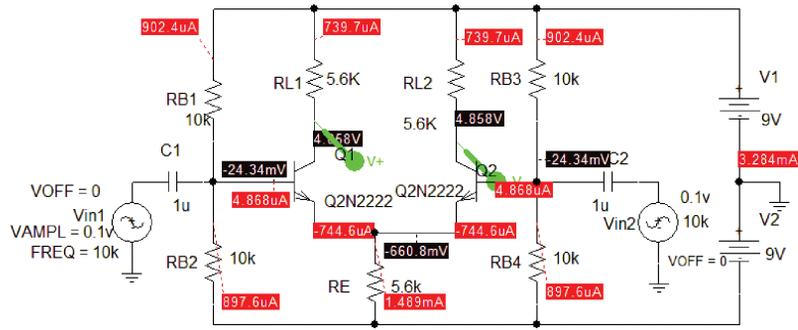

FIGURE 7.43: Differential amplifier
- (7) Investigate the differential amplifier shown in Fig. 7.43.